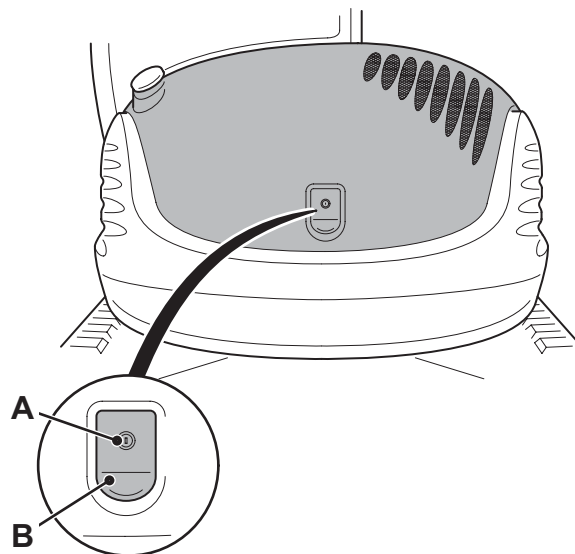

Fig 74.
- 2 Release the latch by pushing button **A** and pulling up handle **B** at the same time. → Fig 74. (□ 214)